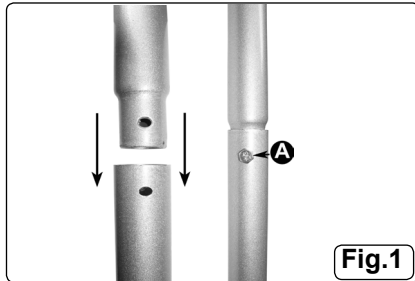

Fig.1
- 4.0.2. Insert the upper handle into the lower handle. Secure the two pieces together with the bolt (A). (Fig.1).